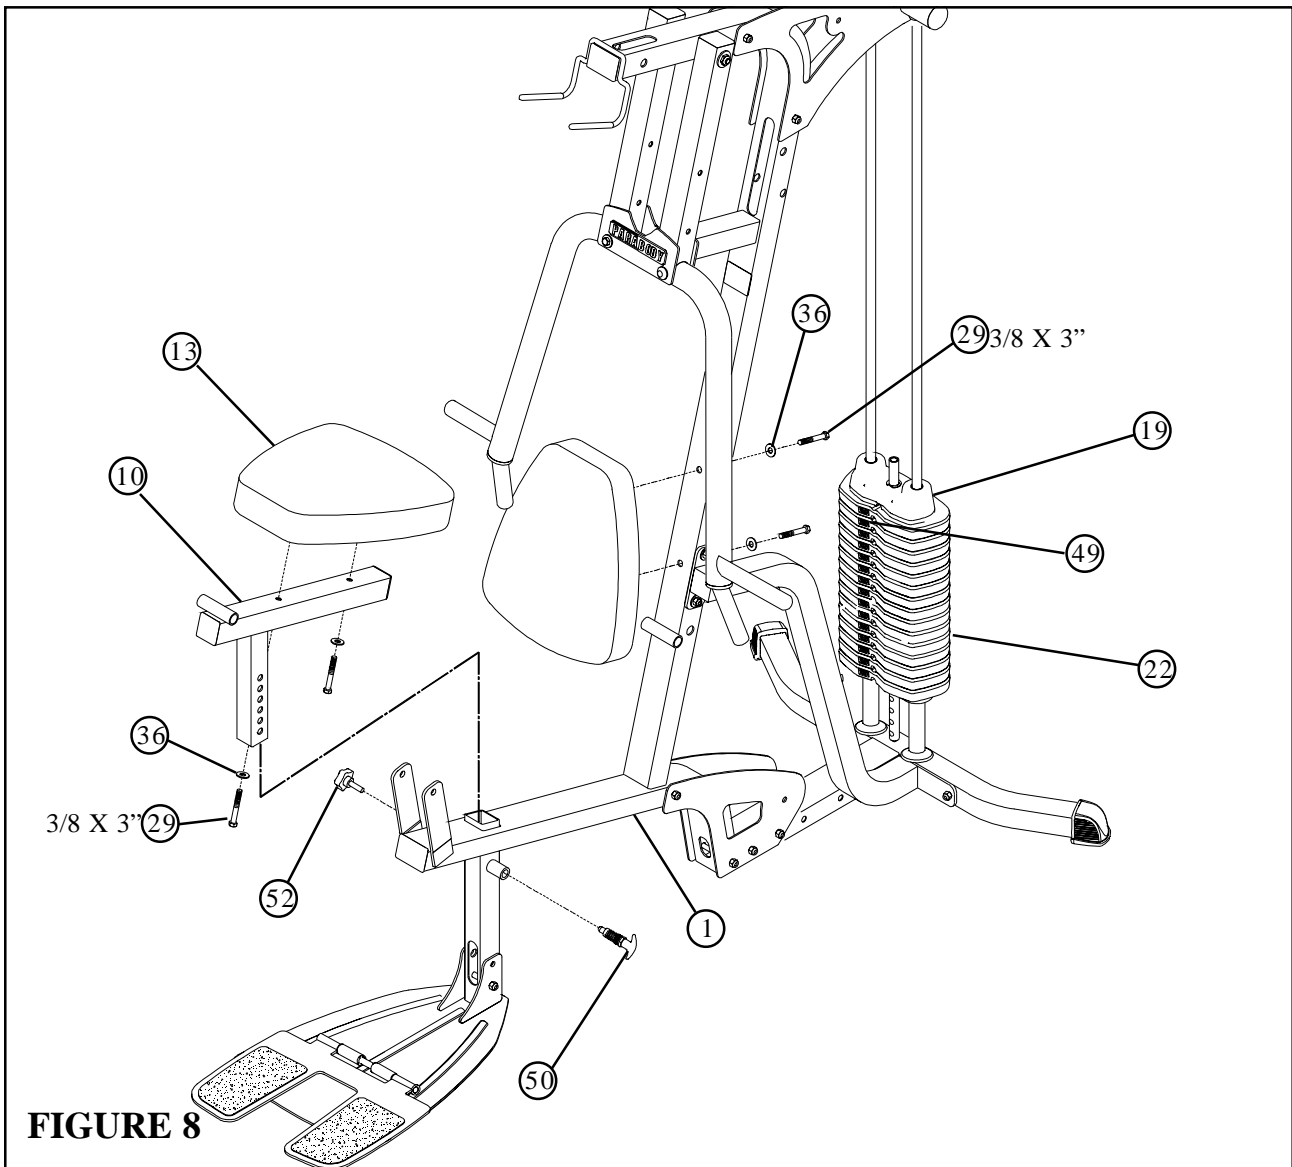

FIGURE 8
- Apply WEIGHT STACK LABELS (49) to WEIGHTS (22) and HEAD PLATE (19) as shown in FIGURE 8. Begin with number one at the HEAD PLATE (19) with larger numbers in consecutive order towards bottom of weight stack.
- Securely assemble one SEAT PAD (13) to the SEAT ADJUSTMENT (10) using two 3/8 X 3" BOLTS (29) and two 3/8" WASHERS (36) as shown.
- Securely assemble one SEAT PAD (13) to the FRAME (1) using two 3/8 X 3" BOLTS (29) and two 3/8" WASHERS (36) as shown. **The top connection of the FRAME BRACE (6) may have to be loosened and then re-tighten after SEAT PAD (13) is tighten.**
- Gently insert SEAT ADJUSTMENT (10) into tube located on FRAME (1)
- Securely tighten the SPRING PIN (50) to the FRAME (1) and hand tighten the STAR KNOB (52)